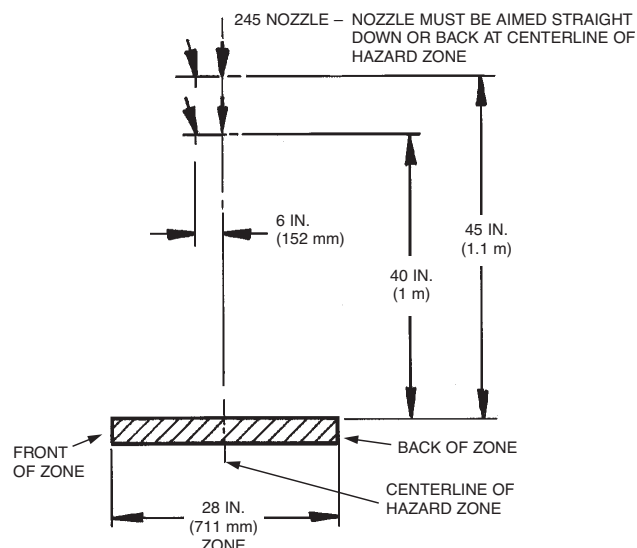

FIGURE 74
3. The overlapping appliance nozzles must be located 40 in. to 45 in. (1 m to 1.1 m) above the top surface of the protected appliances. See Figure 74.
4. The overlapping appliance nozzles must be located 0 in. to 6 in. (0 mm to 152 mm) forward of the centerline or aimline of the selected hazard zone. See Figure 74.